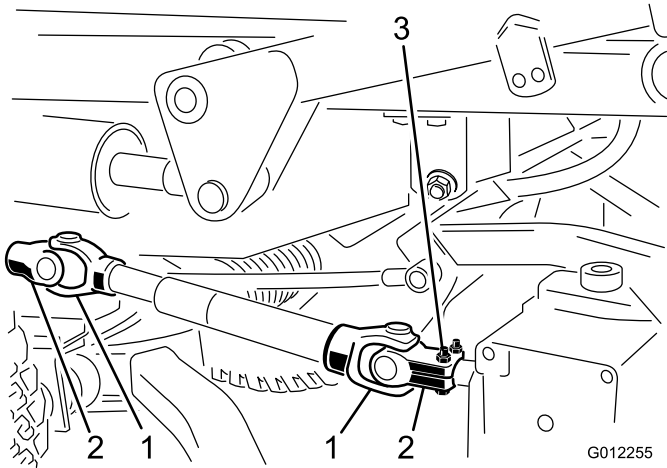

Figure 21
3. Drive out the roll pin securing the drive shaft yoke to the input shaft of the gear box (Figure 21). Loosen the capscrews and locknuts and slide the yoke off of the input shaft. If the traction unit will be used without